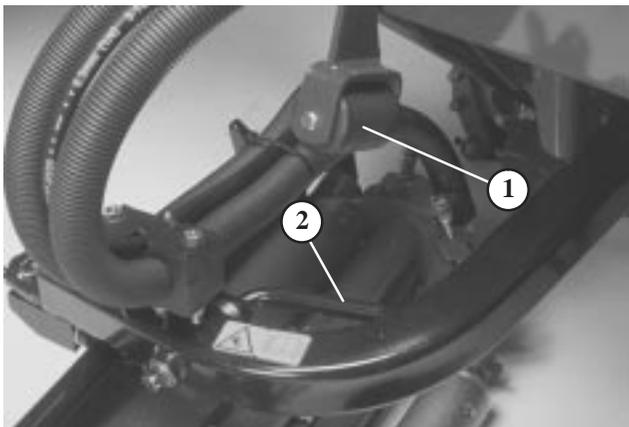

Figure 12
- Check adjustment of lock-up rollers (Fig. 12). When properly adjusted, they will contact the lock-up levers on rear lift arms and support the cutting units when fully raised.